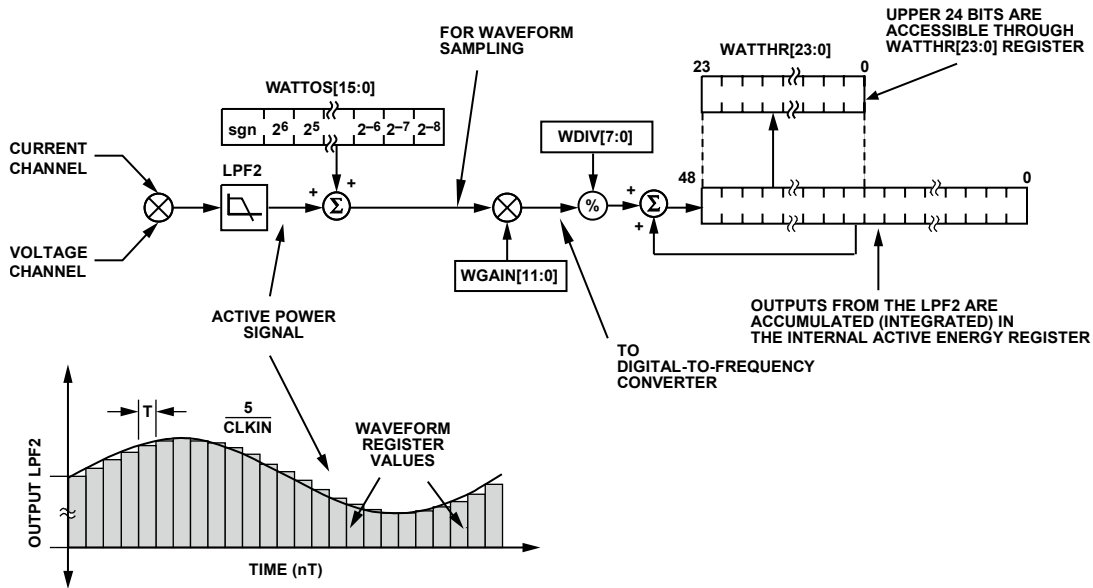

Figure 52. Active Energy Calculation
Figure 52 shows the signal processing chain for the active power calculation in the ADE7566/ADE7569. As explained previously, the active power is calculated by filtering the output of the multiplier with a low-pass filter. Note that when reading the waveform samples from the output of LPF2, the gain of the active energy can be adjusted by using the multiplier and watt gain register (WGAIN[11:0]). The gain is adjusted by writing a twos complement 12-bit word to the watt gain register. Equation 12 shows how the gain adjustment is related to the contents of the watt gain register.
The discrete time sample period (T) for the accumulation register in the ADE7566/ADE7569 is 1.22 μs ($5/\text{MCLK}$). In addition to calculating the energy, this integration removes any sinusoidal components that may be in the active power signal. Figure 52 shows this discrete time integration or accumulation.
The output of the multiplier is divided by the value in the WDIV register. If the value in the WDIV register is equal to 0, the internal active energy register is divided by 1. WDIV is an 8-bit unsigned register. After dividing by WDIV, the active energy is accumulated in a 49-bit internal energy accumulation register. The upper 24 bits of this register are accessible through a read to the active energy register (WATTHR[23:0]). A read to the RWATTHR register returns the content of the WATTHR register, and the upper 24 bits of the internal register are cleared. As shown in Figure 52, the active power signal is accumulated in an internal 49-bit signed register. The active power signal can be read from the waveform register by setting the WAVMODE Register (0x0D) and setting the WFSM bit in the Interrupt Enable Register 3 SFR (MIRQENH, 0xDB). Like the current and voltage channels waveform sampling modes, the waveform date is available at sample rates of 27.9 kSPS, 14 kSPS, 7 kSPS, or 3.5 kSPS.